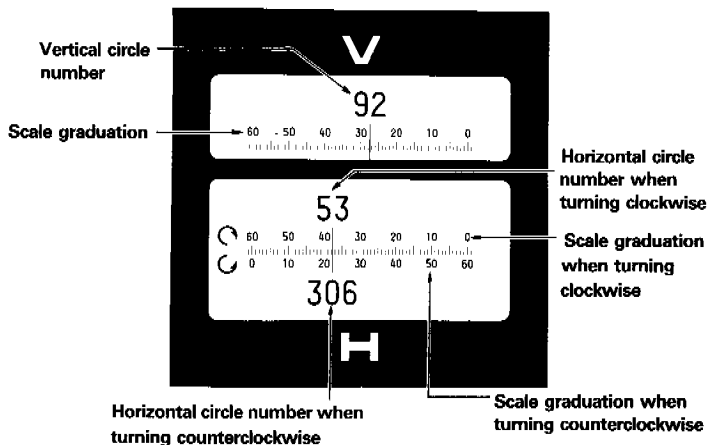

Fig. 24
**A Reading the horizontal circle (H) (in Fig. 24)**
**B Reading the vertical circle (V) (in Fig. 24)**